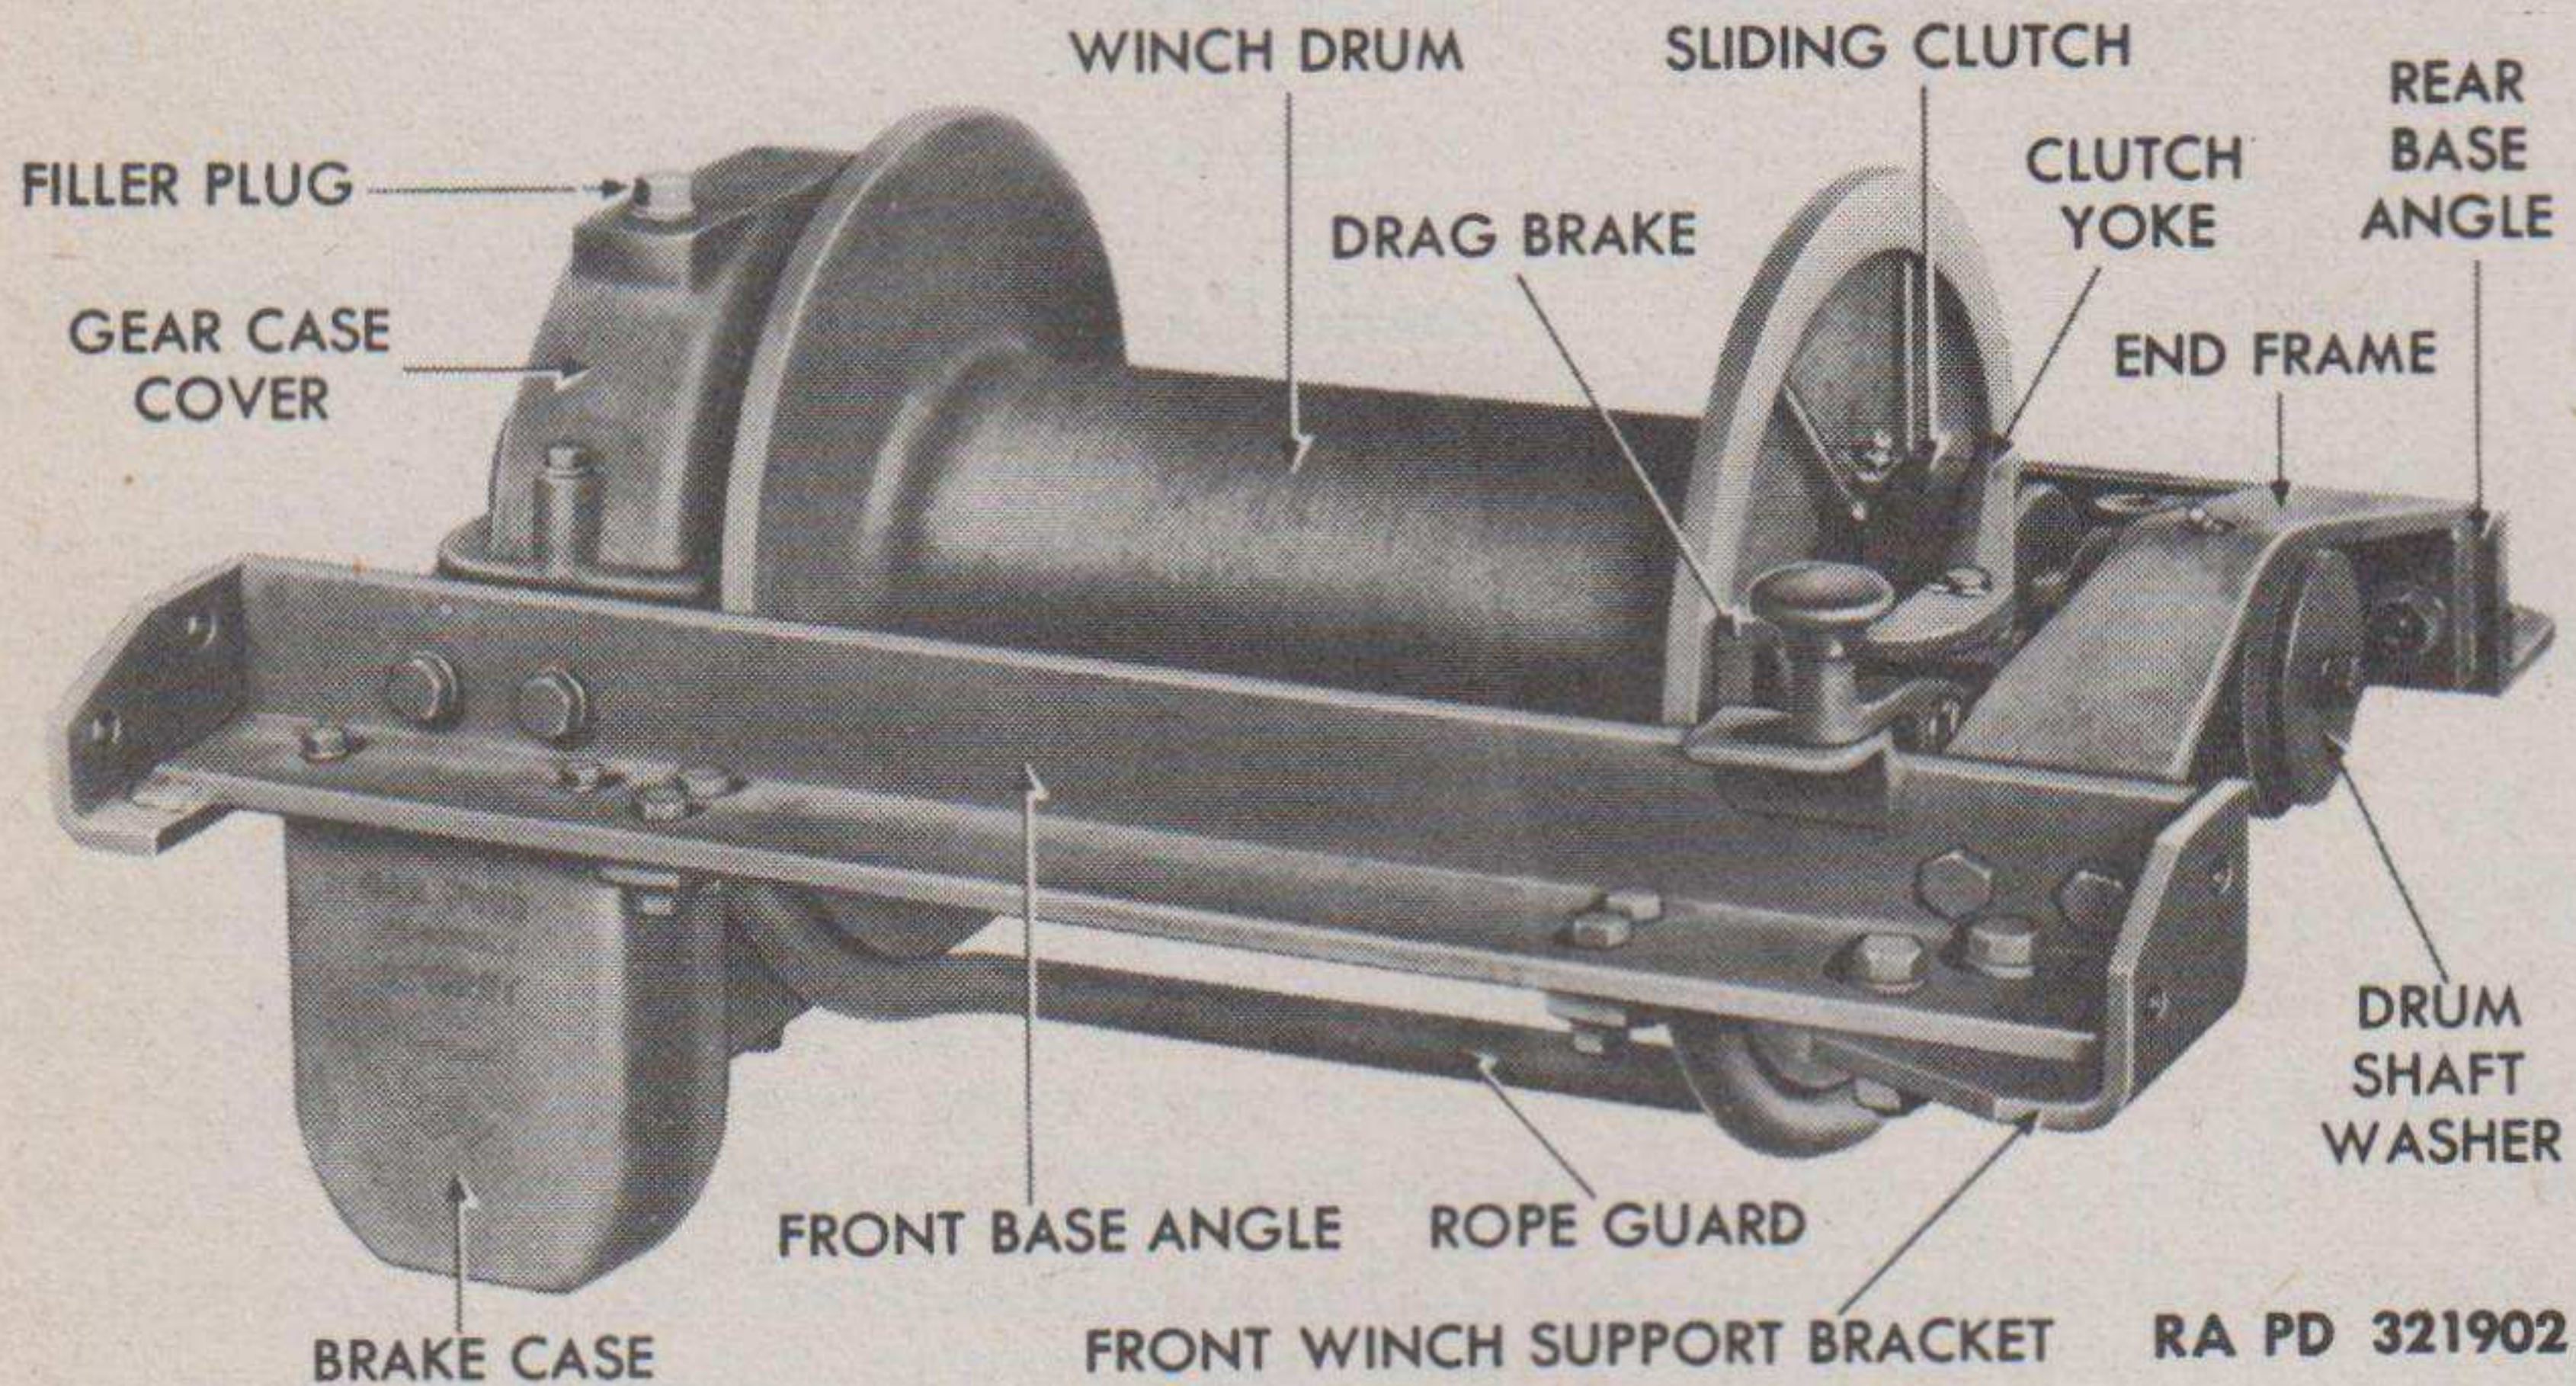

Figure 85 — Winch Assembly
a. **Description** (fig. 85). A winch assembly is attached to the left- and right-hand frame rails behind the front bumper with the left end of the drum shaft supported on a brass sleeve housed in the end frame assembly. The clutch yoke and drag brake are attached to the end frame by a pin, and a clutch sliding on feather keys is located on the drum shaft between the end frame and drum hub. Fixed clutch jaws are on the drum hub. A left-hand worm gear bolted onto a spider is pressed on the right end of the drum shaft and locked in place by two keys. Ball bearings support the right-hand worm gear at the front and rear. A brake case, attached to the front of the gear case, houses a brake disk attached to forward end of the worm shaft and a brake band assembly.
- c. **Remove Base Angles (fig. 85).** Remove cap screws, nuts, lock washers, and bolts attaching front and rear base angles to winch end frame and gear case. Lift off rear base angle and front base angle with attached rope guard.
- d. **Remove End Frame, Clutch and Drag Brake Assembly (fig. 85).** Remove cap screw and lock washer from end of drum shaft. Lift off drum shaft washer and shims. Lift off end frame, and clutch and drag brake assembly. Frame thrust ring will fall free on removal of end frame. Remove sliding clutch from clutch yoke.